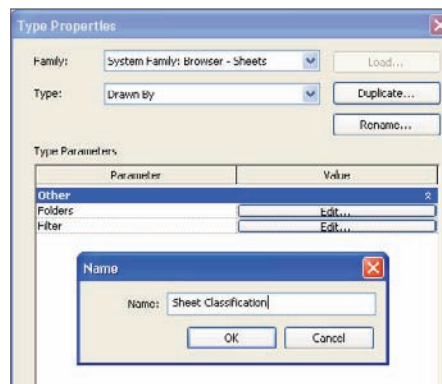

Figure 14.26
3. Click Duplicate, and enter Sheets Classification (Figure 14.26).